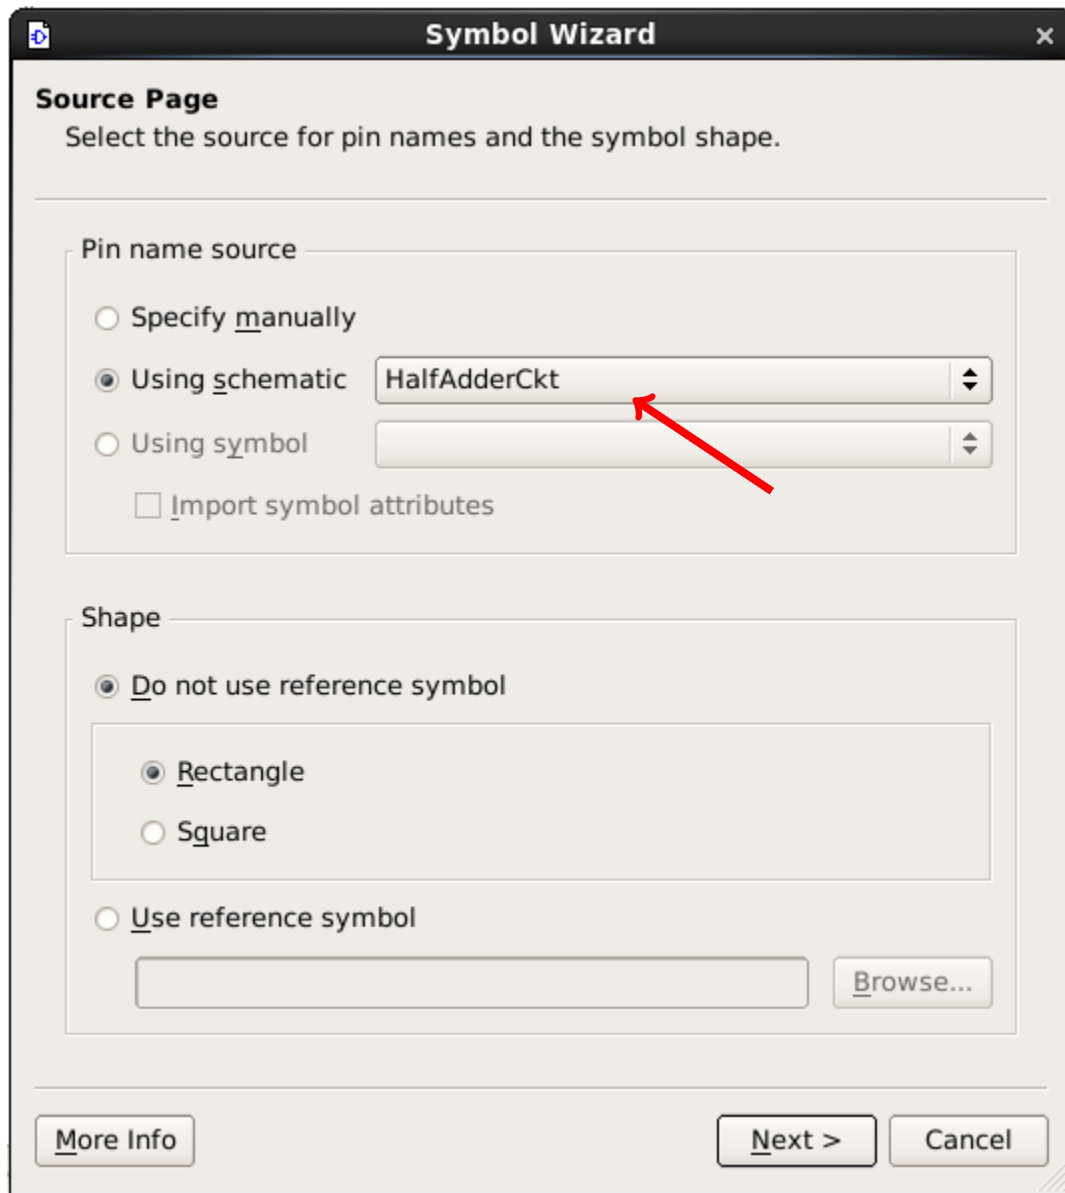

Figure 17: Symbol Wizard dialog box.
1. Select **Tools** → **Symbol Wizard** from the main menu toolbar. The Symbol Wizard dialog box (figure 17) appears.